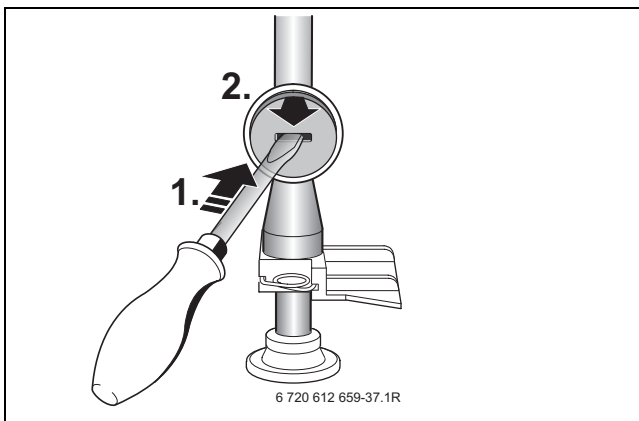

Fig. 49
- ▶ Remove the gas throttle seal with a screw driver as shown in Fig. 49.